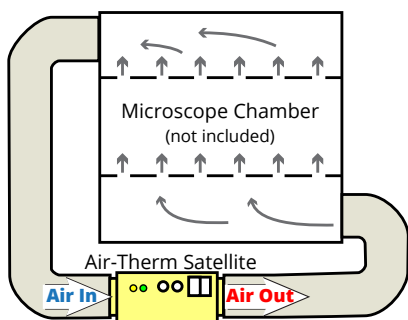

Fig. 58—Connect the tubing to the air inlet and outlet ports on the AirTherm Satellite to the air outlet and inlet ports on the microscope chamber.
1. Connect tubing with the included clamps as shown in Fig. 58.